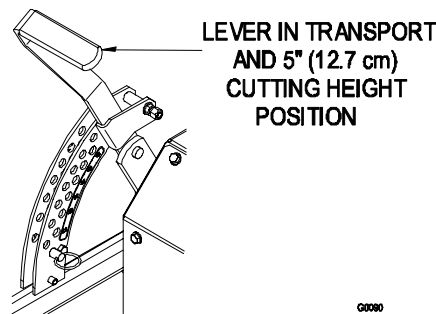
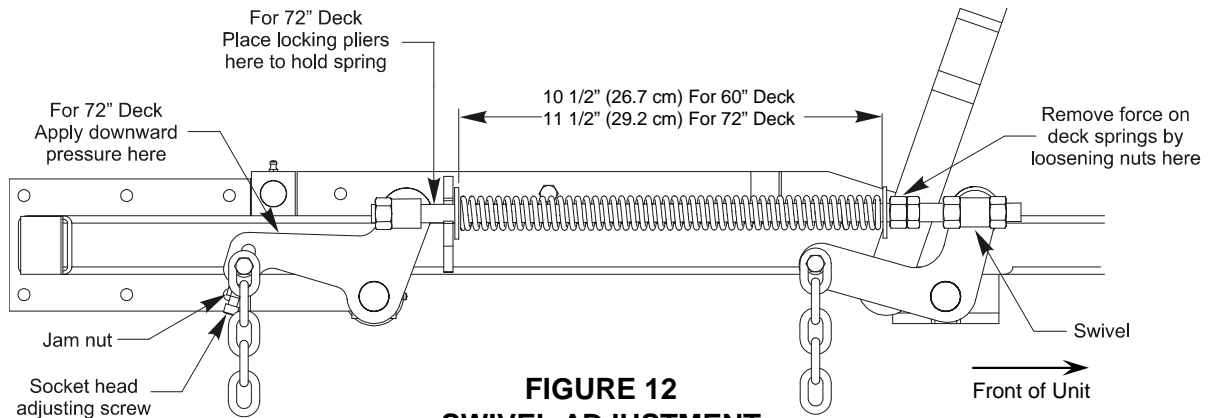

FIGURE 10
FIGURE 12
- c) Raise the deck lever to the transport position (also the 5" (12.7 cm) cutting height position). See Figure 10.
- e) Raise the deck to the 5" (12.7 cm) height position (also transport position) and take all force off of the two large deck lift springs by loosening the nuts at the front of each spring. See Figure 12.
For 72" units – Lower the deck to the 1-1/2" (3.81 cm) height position. Force the left rear deck support arm downward about 1/4" (6.4 mm) to get the deck to rest at the 1-1/2" height position. Place locking pliers between the rear swivel and spring stop to hold the deck in this position. See Figure 12.
- I) Raise deck lift lever to the 5" (12.7 cm) cutting height position See Figure 10. Adjust spring compression until proper distance is obtained between the two large washers (See Figure 12). Adjustment is made by turning the nut at the front of each spring (clockwise will shorten the spring, counter-clockwise will lengthen the spring). Lock in position with jam nuts.